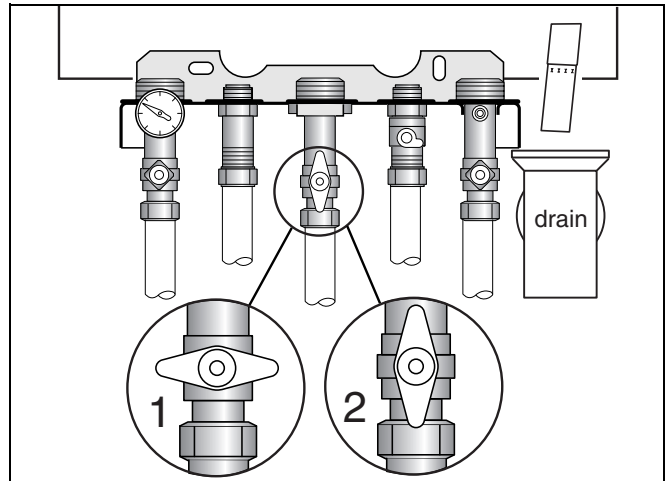

fig. 50 Gas valve
- Close the gas shut off valve (fig. 50, item 1).
- Slowly open the gas shut off valve (fig. 50, item 2).
- Shut the gas shut off valve underneath the boiler (see fig. 50, item 1).
- Open the gas shut off valve (see fig. 50, item 2).
- Shut the gas shut off valve (see fig. 50, item 1).
- Close the gas shut off valve (see fig. 50, item 1).